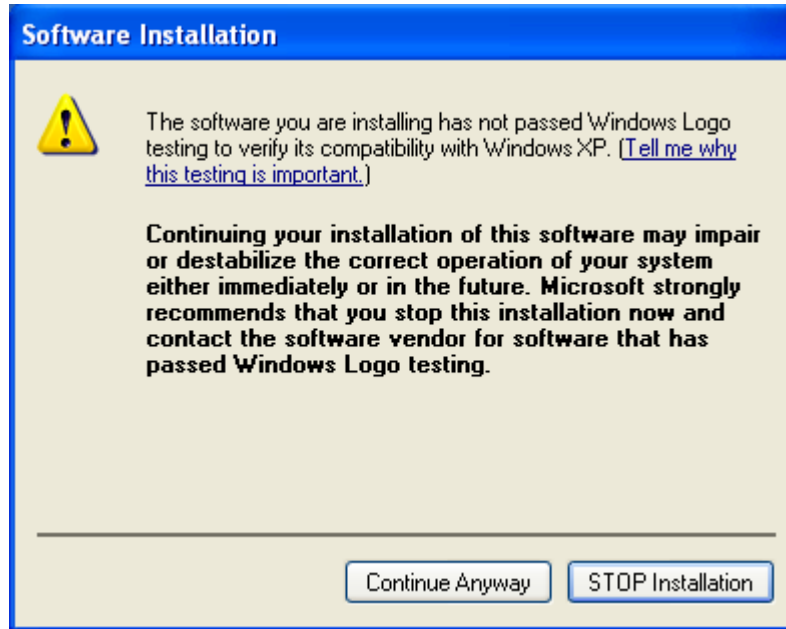

Figure 6-27: AC'97 Driver Installation Verification
Step 5: The Verification window in Figure 6-27 may appear.